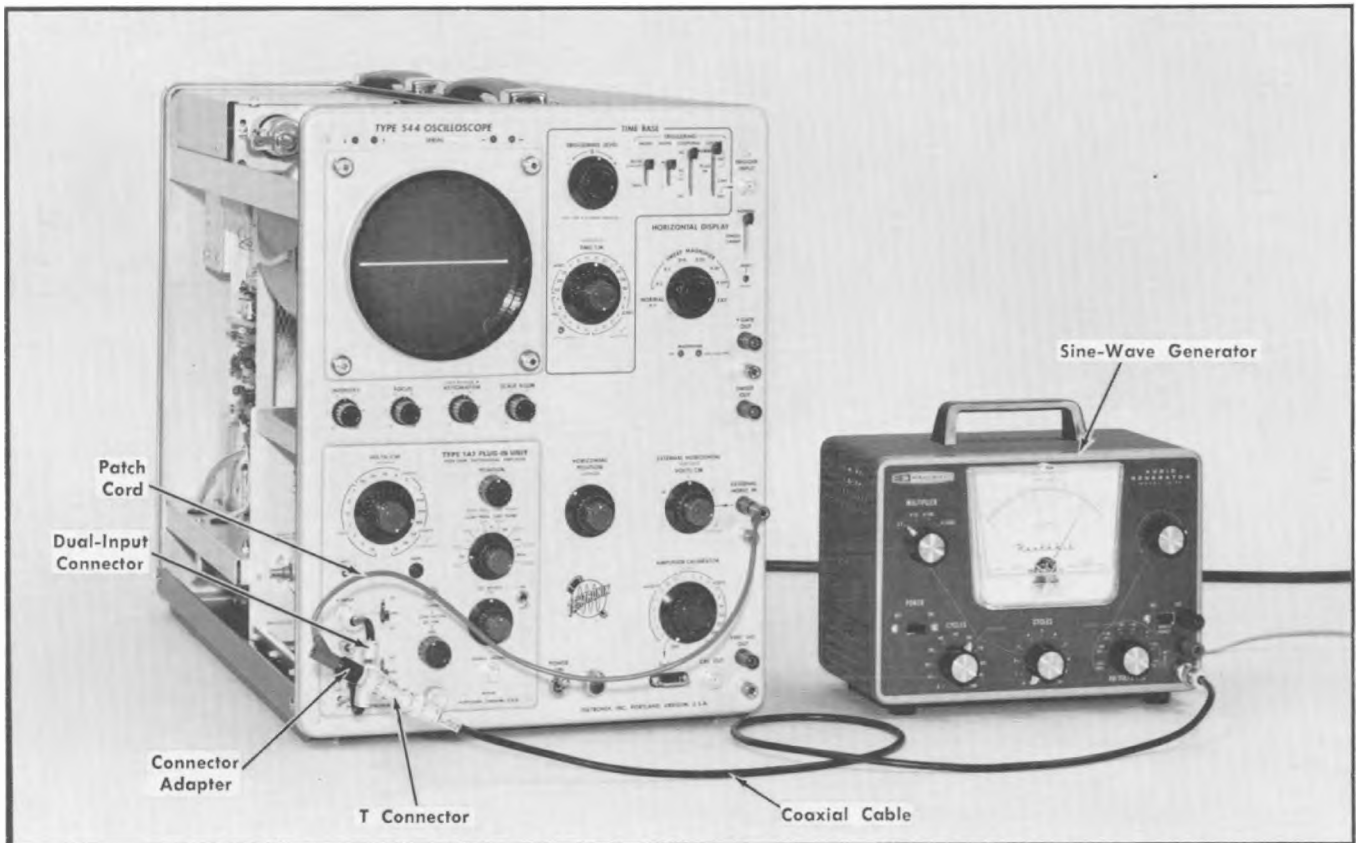

Fig. 6-27. Setup at completion of step 17g; used in steps 17g through 19d.
g. Apply a 100-Hz 20-V peak-to-peak signal from a sine-wave generator through a coaxial cable, T connector, and a dual-input connector to the two inputs on the Type 1A7. Use Fig. 6-27 as a guide for this setup.
a. Using the same equipment setup as that shown in Fig. 6-27, set the sine-wave generator for an output frequency of 100 kHz. Adjust the generator output so the horizontal deflection is exactly 10 cm (20 V).
- a. Using the same equipment setup as shown in Fig. 6-27, set the sine-wave generator for an output frequency of 60 Hz. Adjust the generator output so the horizontal deflection is exactly 10 cm (20 V).